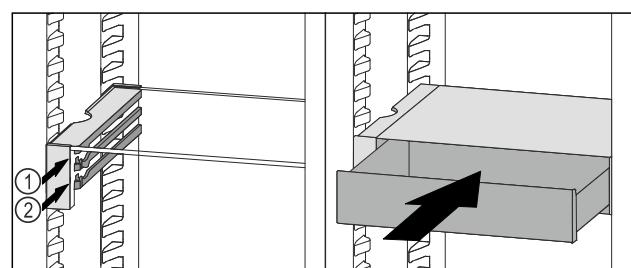

Fig. 94
- Place the VarioSafe drawer behind the stoppers on desired rib Fig. 94 (1) or Fig. 94 (2).